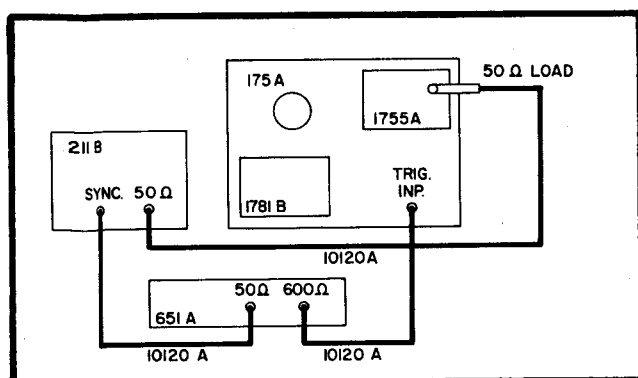

Figure 5-5. External Pulse Synchronization
a. Refer to Figure 5-5 and connect required equipment.